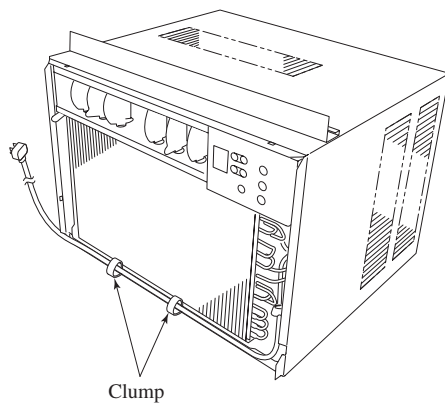

FIGURE2
- ③ Clamp the power cord as shown FIGURE2.